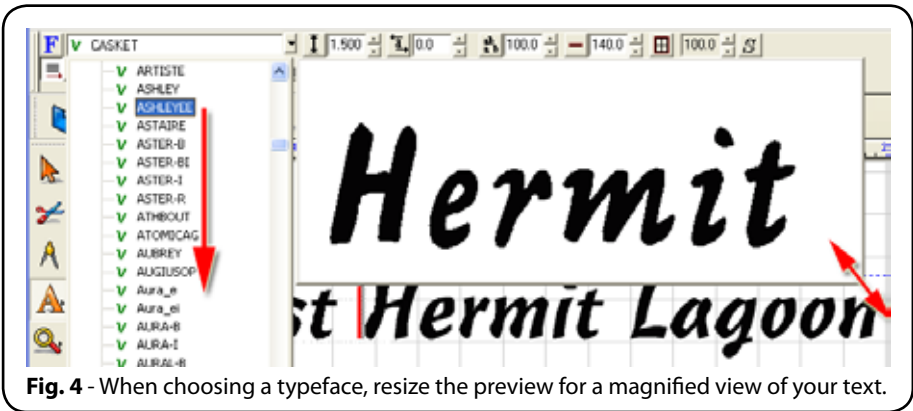

Fig. 4 - When choosing a typeface, resize the preview for a magnified view of your text.
- **Typeface Preview** - When choosing a font, an re-sizable preview shows how the current text would appear (Fig. 4). Alternative, an entire typeface can be displayed, so that the character styles can be evaluated at-a-glance.